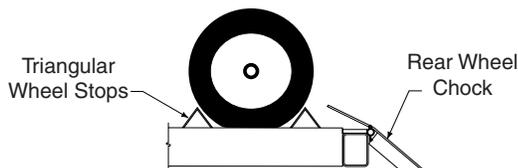

Fig. 1
3. Drive vehicle onto lift and stop when vehicle's front wheels are centered on turning radius gauges. On lifts not used for wheel alignment, stop vehicle when it is centered on runways. At all times, be sure rear wheels are forward of the ramp/chocks and the ramp/chocks will clear tires when the lift is raised, Fig. 1. Driver and passengers must exit before raising.
4. Place triangular wheel chocks on each side of one of the rear tires, Fig. 1.
13. Fully lower lift, remove the triangular wheel chocks and check to be sure area is clear before removing vehicle from lift, Fig. 1.